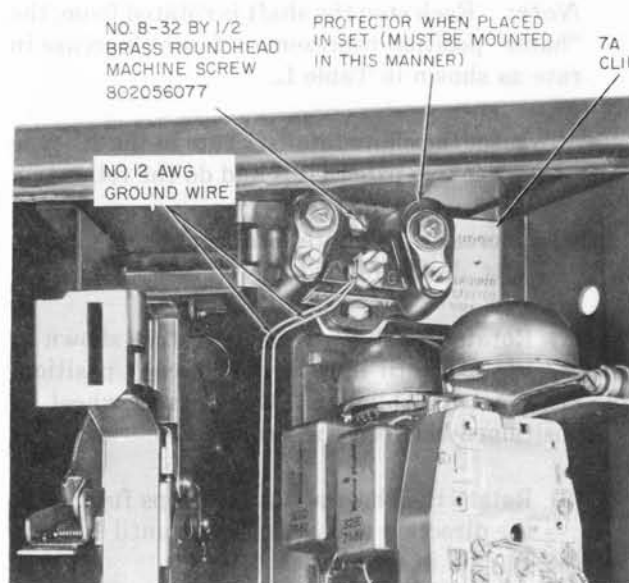

Fig. 33—123A1A (DA) or 123E1A Protector Installed in Panel Set
- (2) Push the 7A clip with the protector into the set so its spring-loaded flange fastens on the right leg of the chute lock bracket as shown in Fig. 33.
- (3) Dress the leads to avoid interference with the moving parts.